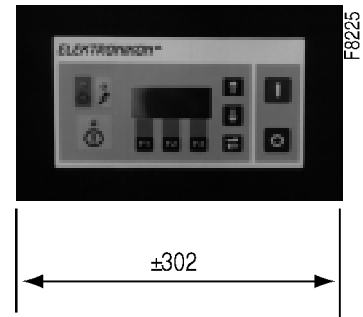

Fig. 2.5. Elektronikon MK III HR regulators 4x16 display
- On compressors with an Elektronikon regulator as shown in Fig. 2.5, disconnect the control mode switches CMS1 and CMS2. Connect the key-switch to the regulator as shown in Fig. 2.10.